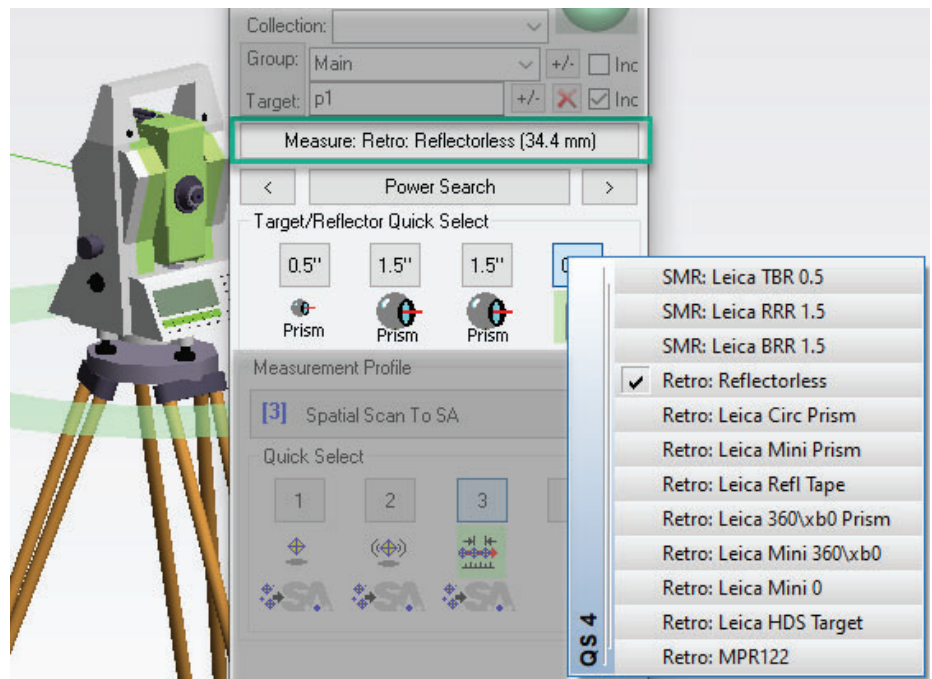

Figure 5-108. Active Target and Target Quick Select Options
3. Press OK to build the new target definition. Measurements will use the selected reflector displayed in the measure button and can be assigned to one of the 4 quick selects by right clicking on the target definition (Figure 5-108).